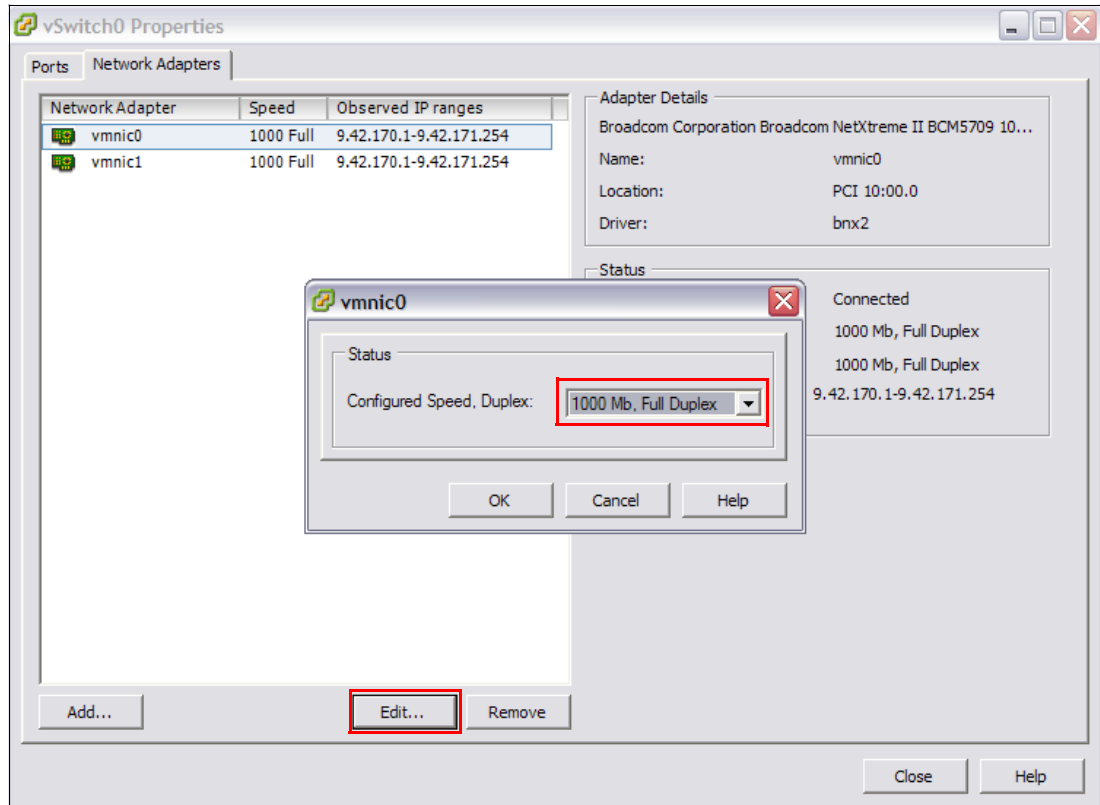

Figure 22-67 Setting Network Speed
- You are presented with the main vSwitch0 Properties window. Highlight the first adapter, click **Edit**, and set the Configured Speed, Duplex to 100 Mbps, Full Duplex or 1000 Mbps, as shown in Figure 22-67 on page 699. Click **OK**.